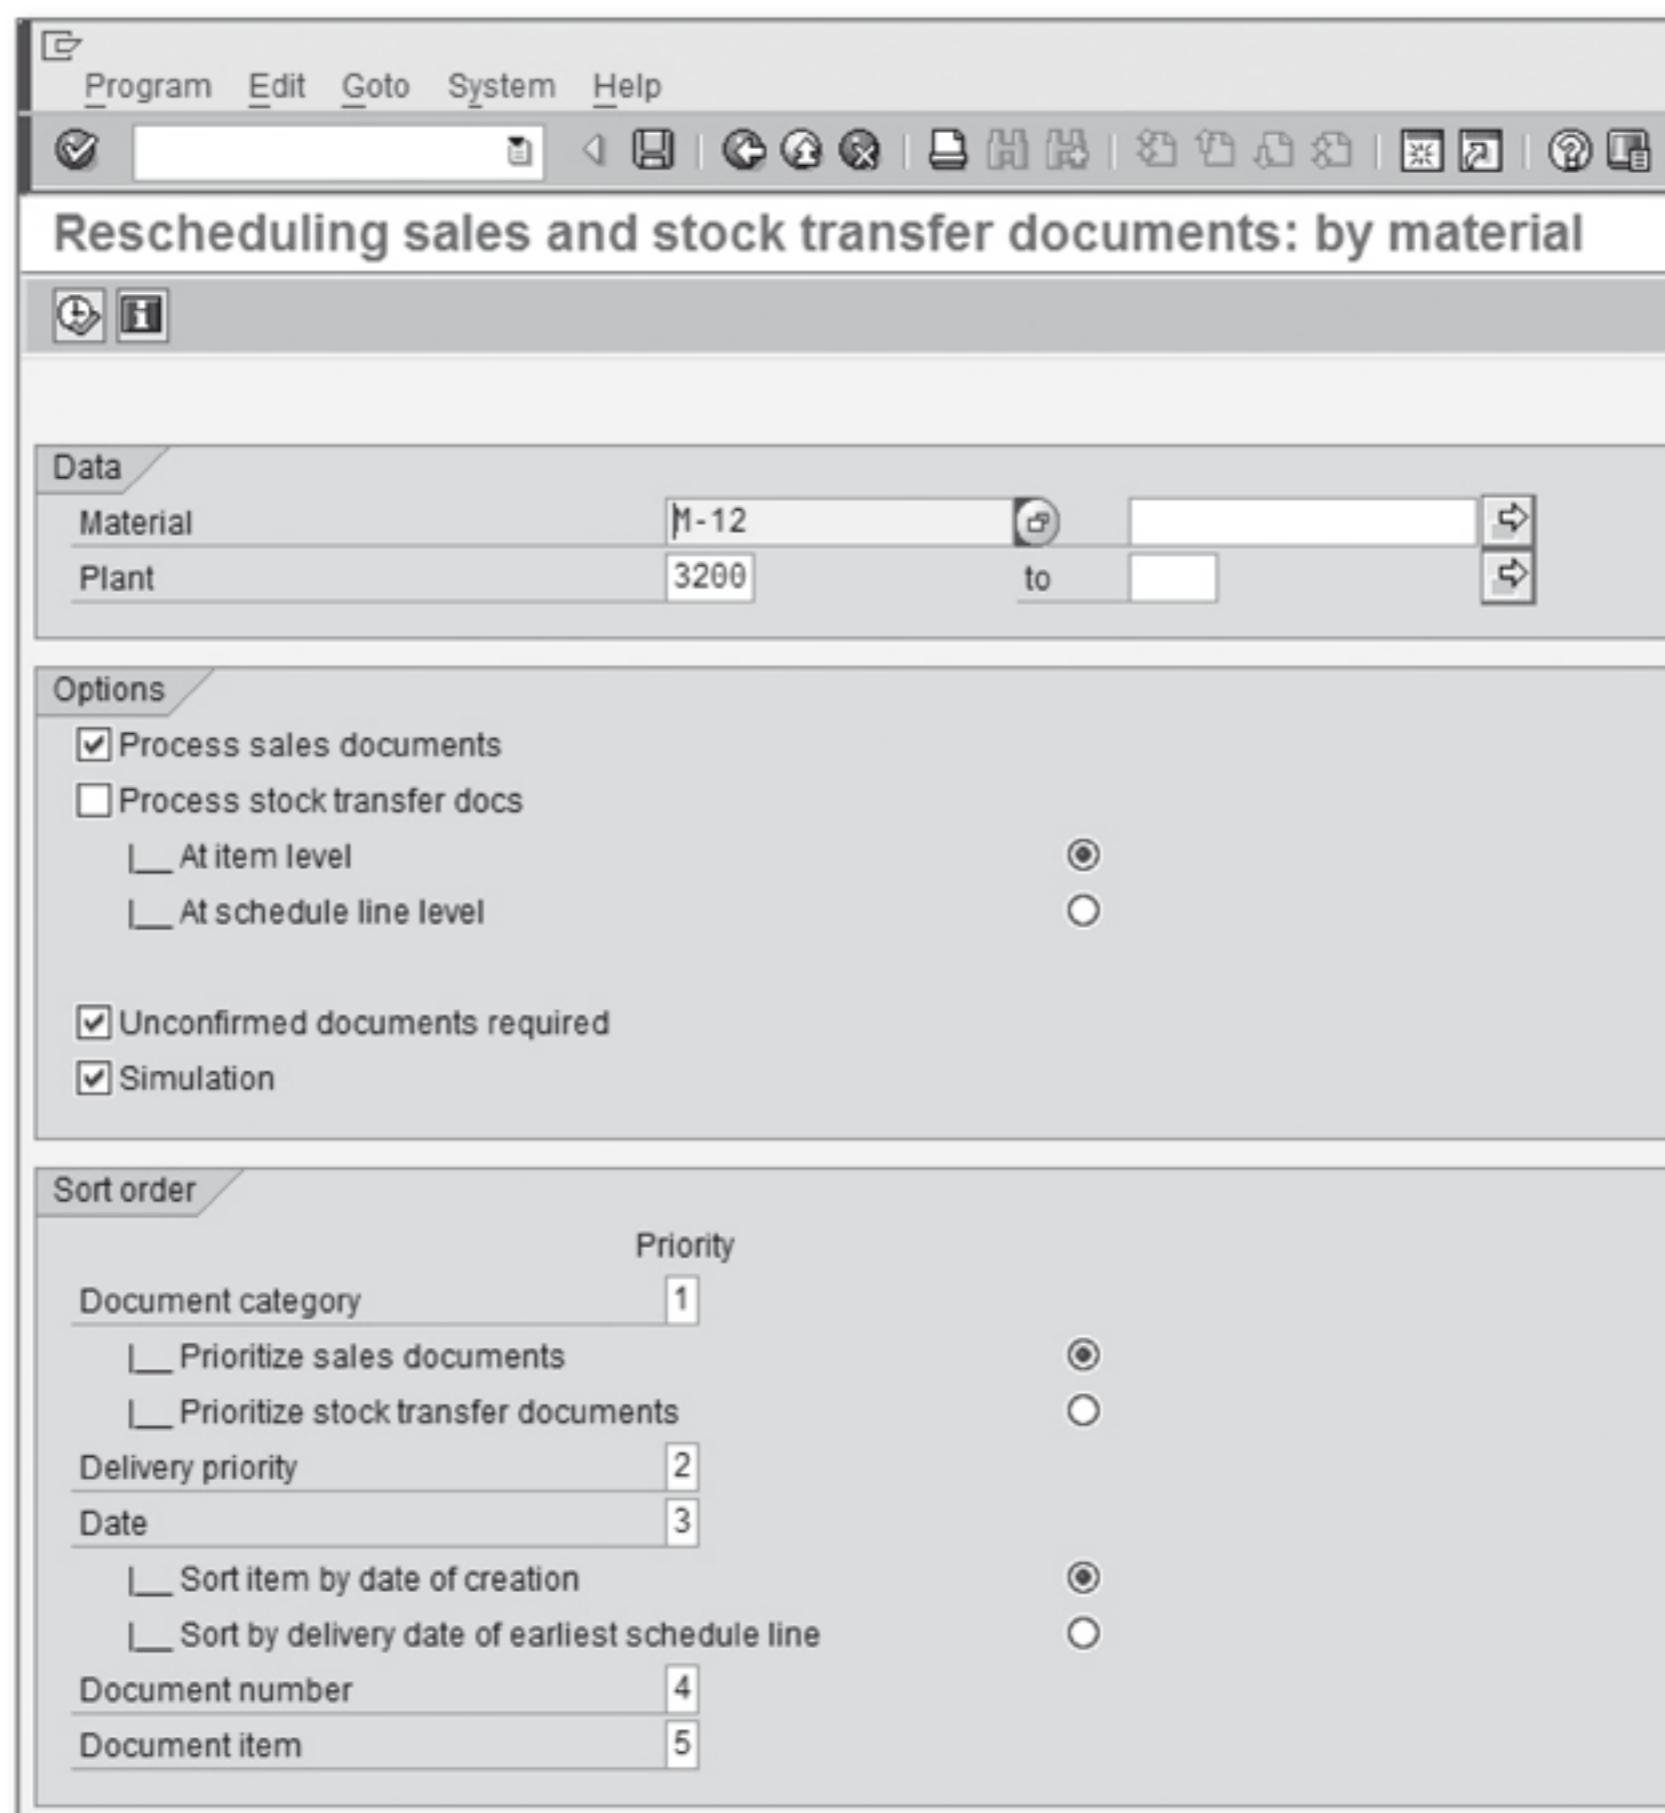

Figure 3.30 Rescheduling Execution Transaction Initial Screen
When you execute rescheduling Transaction V_V2, you'll get to the initial selection screen when you set your criteria. When running this as a background job, you set a variant that will be executed at the scheduled time. As an example, you can set your criteria on the initial screen of the rescheduling transaction and run it in the foreground, as shown in Figure 3.30. Let's walk through an example of rescheduling in the foreground mode.
2. In the Options section, select what kind of documents you are rescheduling. Select Process Sales Orders, as shown in Figure 3.30. If you want to include stock transfer documents, you also need to specify if the line item or a schedule line detail will be taken into consideration.